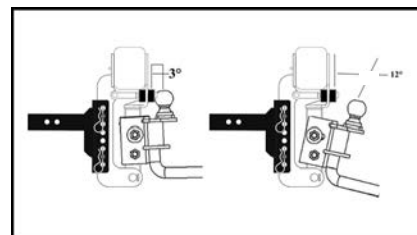

Figure 10: Using spacer washers, find the correct angle needed for your setup.
•Pin ⑭ and seven hardened washers ⑬ are supplied in order to gain correct downward angle of spring bars. For an initial fitment, try four spacer washers for top mounted couplers and three spacer washers for bottom mounted couplers. Insert pin ⑭ and depending on angle or slope of bars that must be gained, use the least amount of washers ⑬ necessary in order to establish correct angle (see Figure 10).
•The pin ⑭ and its accompanying washers ⑬ are placed in the 1/2" hole between the "U" on head assembly ② to acquire desired angle of spring bar ④. Once spring bar ④ angle has been determined, insert top bolt ⑮ with toothed washer ⑮. Install second toothed washer ⑮ and nut ⑫ to secure unit in correct position. Before tightening bolts, lock (tighten) ball mount set screw located at the bottom rear center of ball mount channel. Tighten the 3/4" top bolt ⑮ to 260 ft. lbs. torque once head angle is set. Secure lower bolt ⑮ to 260 ft. lbs. torque. After first day of towing, check ball mount set screw for tightness.